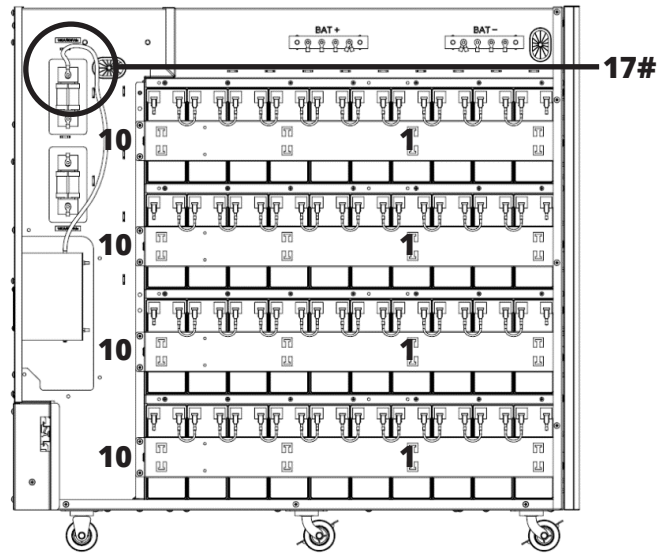

Figure 5-26
38. Connect the fuse to the BAT- circuit breaker (Figure 5-26).